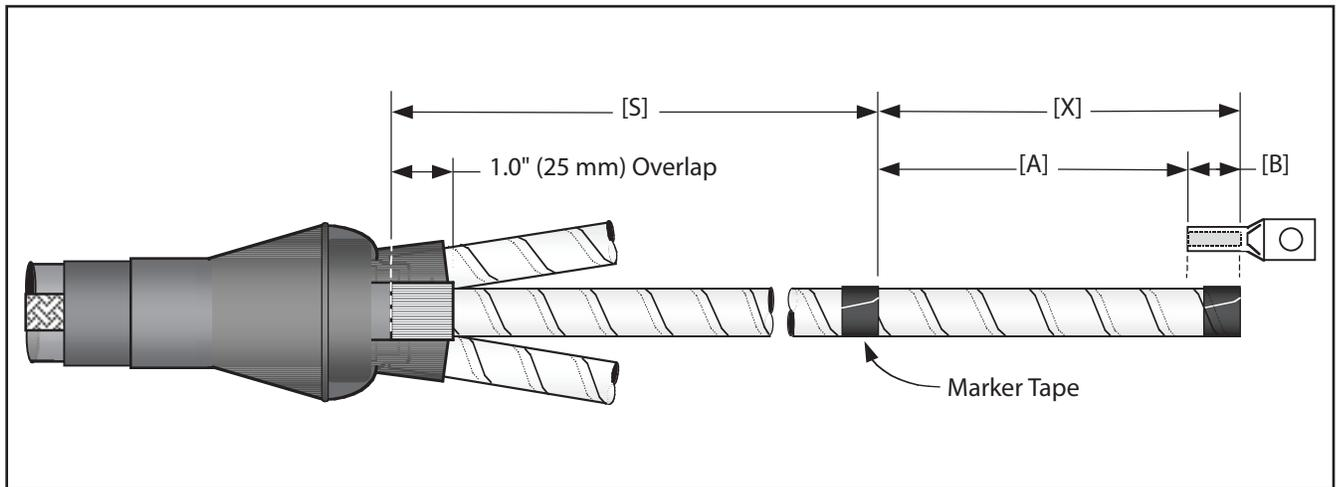

Figure 14
4.1 From the chart below, determine the correct [A] (Figure 14) dimension for the termination being installed.
4.2 Place a vinyl tape marker on each cable phase leg at dimension [X] (Figure 14).
4.3 Determine required re-jacketing sleeve length for each phase leg (Distance [S], Figure 14). Be sure to include 1.0" (25 mm) breakout boot finger overlap in measurement.